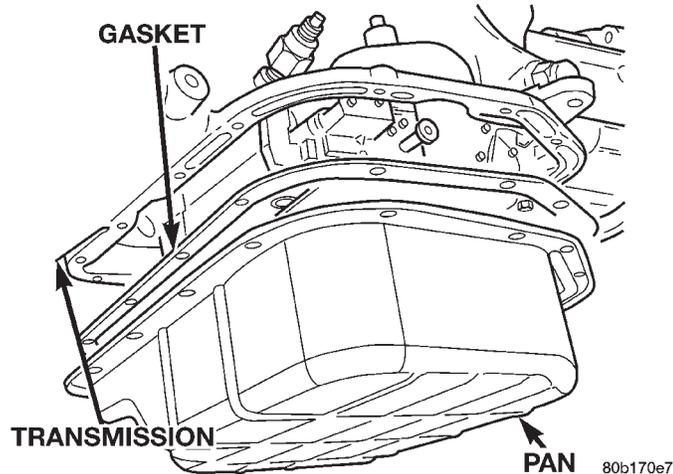
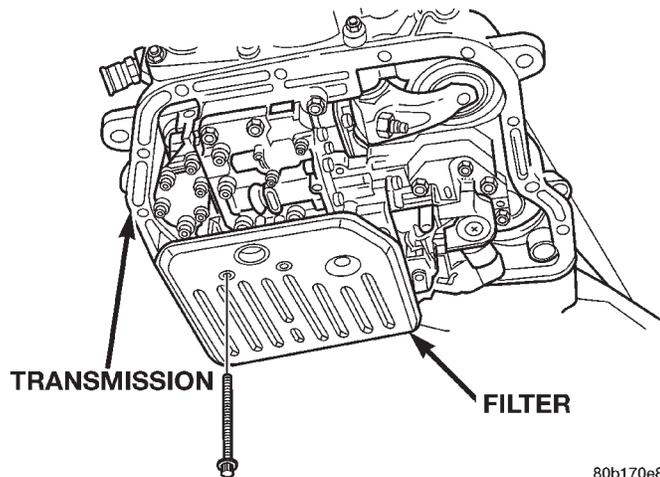

Fig. 12 Transmission Pan—Typical
Fig. 13 Transmission Filter—Typical
- (1) Hoist and support vehicle on safety stands.
- (2) Place a large diameter shallow drain pan beneath the transmission pan.
- (3) Remove bolts holding front and sides of pan to transmission (Fig. 12).
- (4) Loosen bolts holding rear of pan to transmission.
- (5) Slowly separate front of pan away from transmission allowing the fluid to drain into drain pan.
- (6) Hold up pan and remove remaining bolt holding pan to transmission.
- (7) While holding pan level, lower pan away from transmission.
- (8) Pour remaining fluid in pan into drain pan.
- (9) Remove screws holding filter to valve body (Fig. 13).
- (10) Separate filter from valve body and pour fluid in filter into drain pan.
- (11) Dispose of used trans fluid and filter properly.
(1) Place replacement filter in position on valve body.
(2) Install screws to hold filter to valve body (Fig. 13). Tighten screws to 4 N·m (35 in. lbs.) torque.
(3) Place new gasket in position on pan and install pan on transmission.
(4) Place pan in position on transmission.
(5) Install screws to hold pan to transmission (Fig. 12). Tighten bolts to 17 N·m (150 in. lbs.) torque.
(6) Lower vehicle and fill transmission with Mopar® ATF Plus 3, type 7176 fluid.